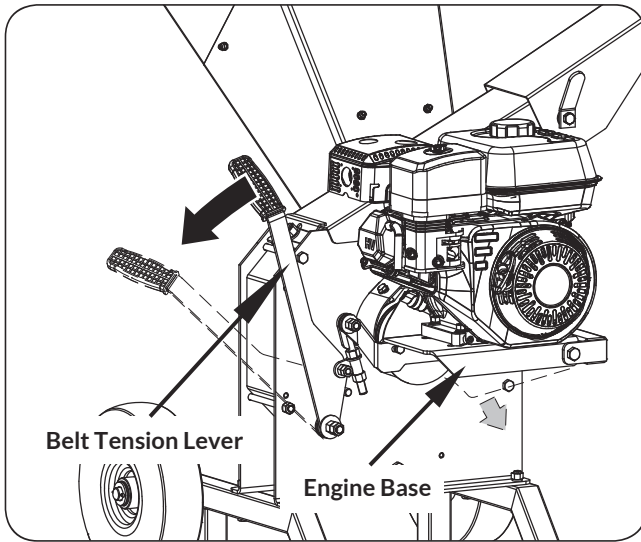

Figure 25
2. Push down on the belt tension lever to release the belt tension. (See **Figure 25**)